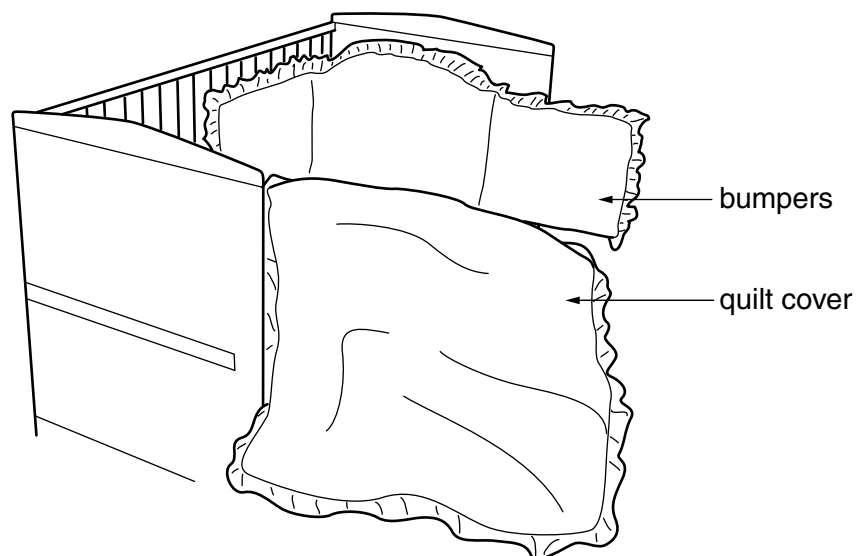

Fig. 7
7 Fig. 7 shows a baby's cot set, with bumpers and a quilt cover.
- (b) Describe the order of manufacture of the quilt cover shown in Fig. 7.